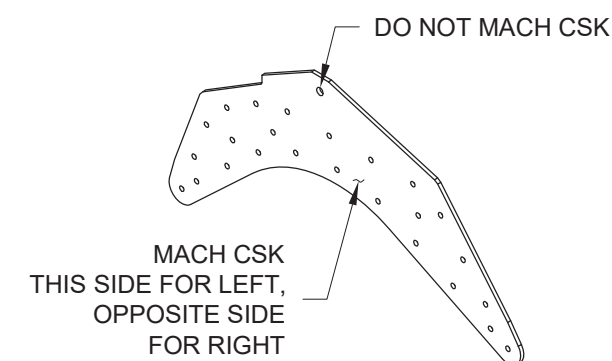

FIGURE 5: MACHINE COUNTERSINKING THE T-01225 ATTACH BRACKET
Step 5: Machine countersink the #30 holes in the two T-01225's. As indicated in Figure 5, the side in which the holes are machine countersunk determines left or right orientation of the part.